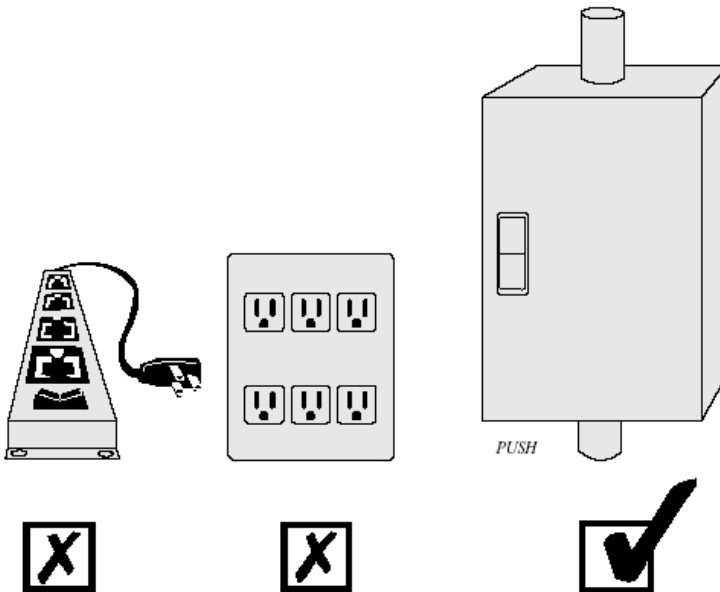

Figure 10
2. Please connect UPS input terminal from mains power switchboard close. (Figure 10).